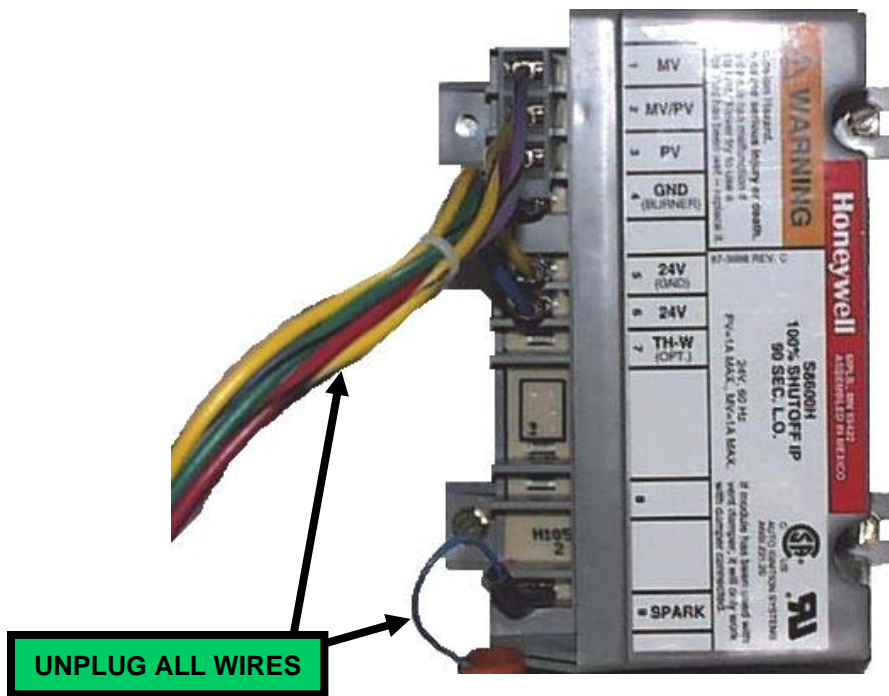

Fig. 11
1. Unplug all wires and connectors from ignition control. (See **Fig. 11**.)